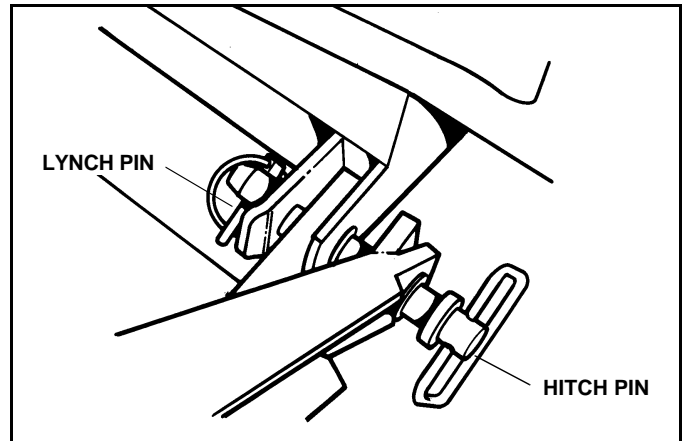

Figure 1-13
8. Align A-Frame and vehicle mounting lugs and install two (2) lower outboard pivot Hitch Pins. Install Lynch Pins into Hitch Pins to secure them in place. (See Figure 1-13)